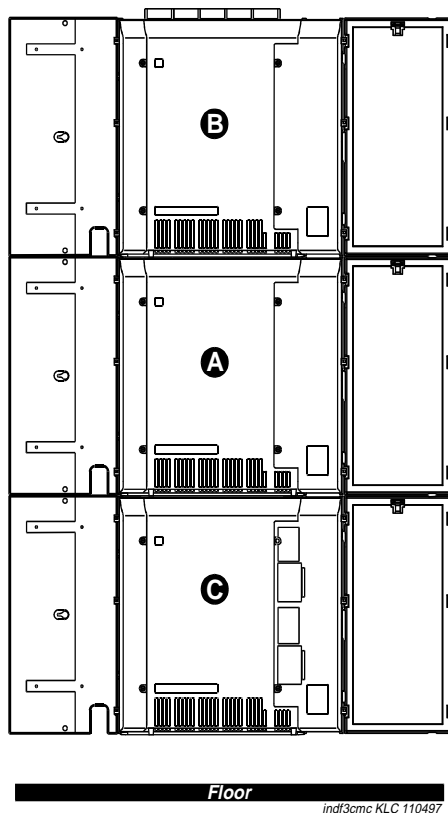

Figure 48. Typical Compact Modular Cabinet \(csi model\) Installation (Front)
Up to three Compact Modular Cabinets can be combined in a single installation. Port and service circuit packs fill all ten slots in the second and third cabinets. The first cabinet (A) installs in the middle position, the second cabinet (B) installs on the top, and the third cabinet (C) installs on the bottom. See Figure 48.